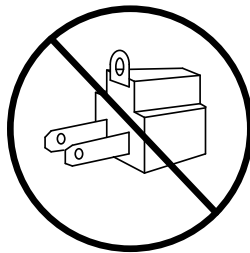

Figure 6
- Do not use an adapter. (See Figure 6).